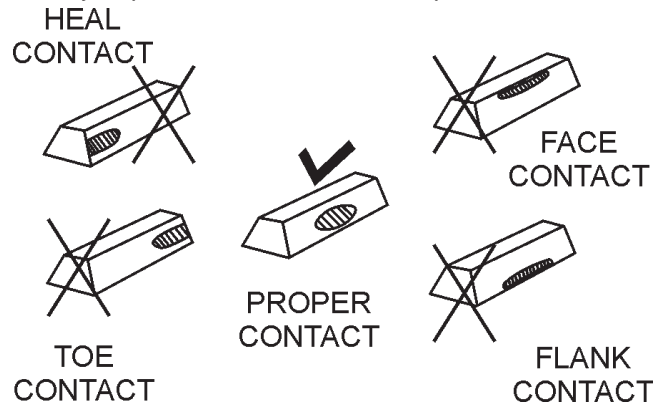

Figure 32. Gear Teeth Alignment
- If gear teeth are not contacting properly (Figure 32), adjust pillow block to correct the problem.